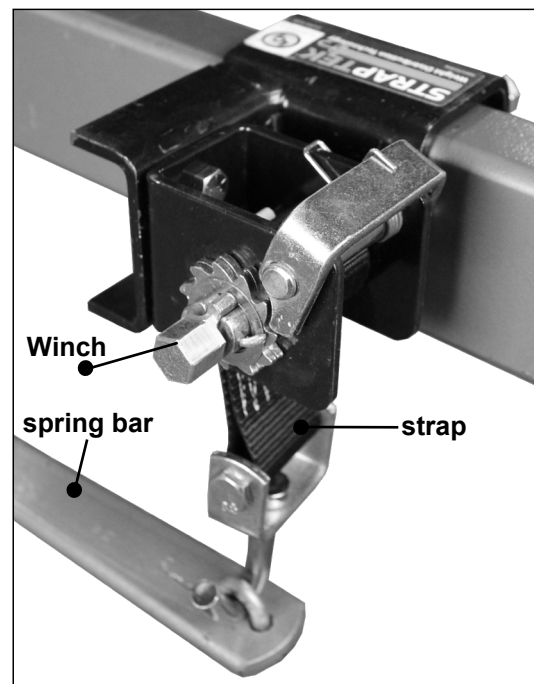

Fig. 3
3. Use a ratchet with a 3/4" socket on the winch to wind the strap until spring bar is parallel to the A-frame (Fig. 3).
4. Adjust the Straptek tensioners on the A-frame until the straps are perpendicular with the A-frame (Fig. 3).